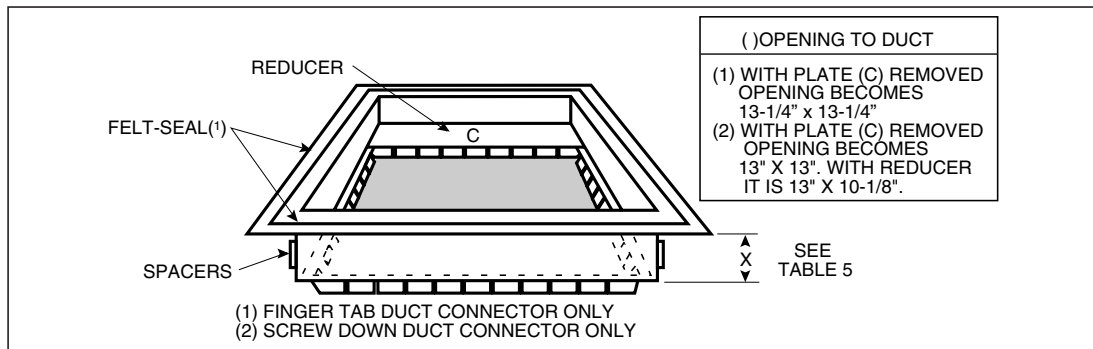

Figure 5.
- Select appropriate model from Table 5 which matches X-dimension of the floor cavity. To maximize air delivery, remove reducer "C" (see Figure 5) to obtain the largest open area that will fit the duct/floor construction.